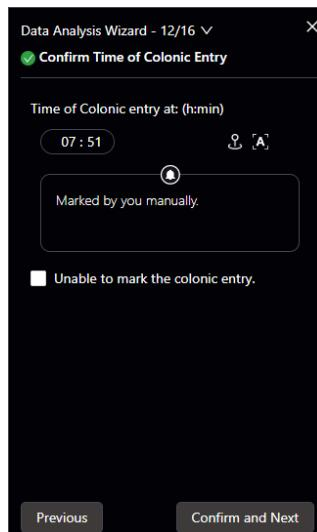

Figure 4-36 Data Analysis – Confirm Time of Colonic Entry
13) Confirm Time of Colonic Entry (Figure 4-36). Check the time the capsule entered the colon is correct. If incorrect, you can directly input the necessary time in the time edit box, or click [Mark on the graph]  to mark the time on the chart. To restore the time automatically marked by MotiliScan, click [Auto Compute] . If the time cannot be marked, check [Unable to mark the colonic entry]. After confirmation, click [Confirm and Next] to proceed.